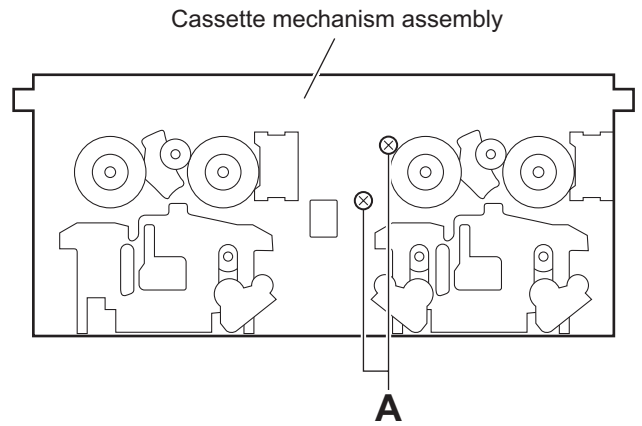

Fig.1
3.3.1 Removing the main motor and replacing the main belts (See Figs.1 and 2)
- (1) From the front side of the cassette mechanism assembly, remove the two screws **A** attaching the main motor. (See Fig.1.)